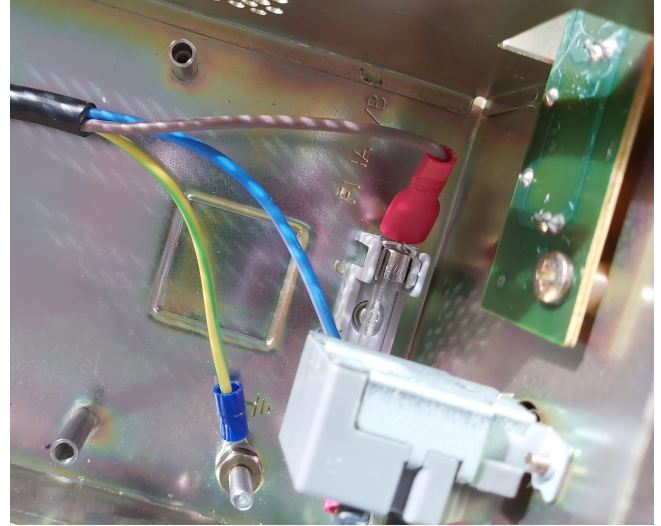

Figure 1.3: Connect the Ground (green) and Live (brown) wires.
4. Firmly push the spade connector onto the fuse holder terminal. Loop the ring connector over the vertical ‘ground’ post and secure it in place with a nut (as shown in Figure 1.3). Note that the fuse itself does *not* need to be replaced.